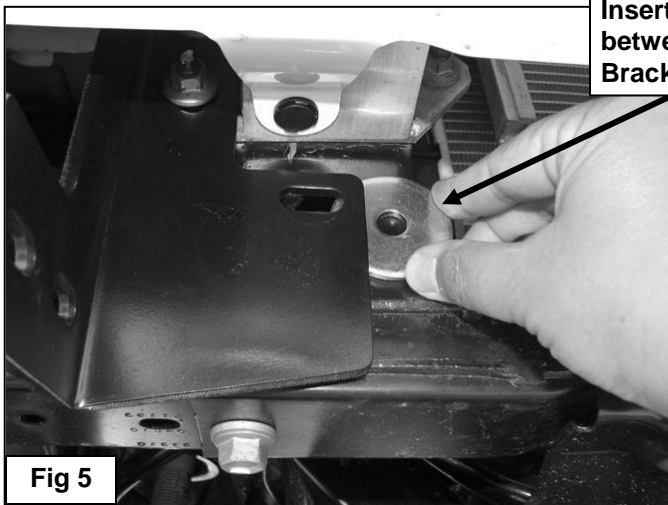

Fig 5
4. Slide (1) Large Spacer Washer between the Mounting Bracket and the frame cross member, (**Figures 5 & 6**). Insert (1) 10mm x 120mm Hex Bolt with (1) 10mm x 34mm OD Large Flat Washer and (1) Large Spacer Washer into and through the hole in the back of the cross member. Make sure the Spacer Washer is against the cross member covering the large hole, (**Figures 7 & 9**). Push the long bolt through the outer Spacer Washer and Frame Bracket. Secure the Bracket to the Bolt with (1) 10mm x 34mm Large Flat Washer and (1) 10mm Hex Nut & (1) 10mm Lock Washer (**Figures 8 & 9**). Leave hardware loose at this time. **NOTE:** Trim plastic splashguards attached to the bottom corners of the bumper as necessary to clear brackets.